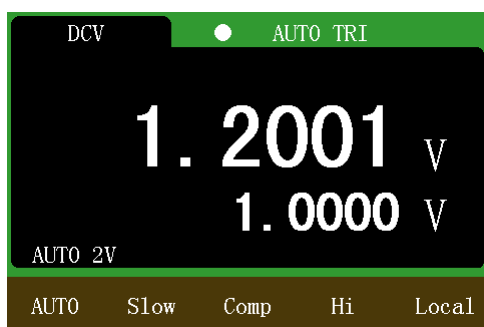
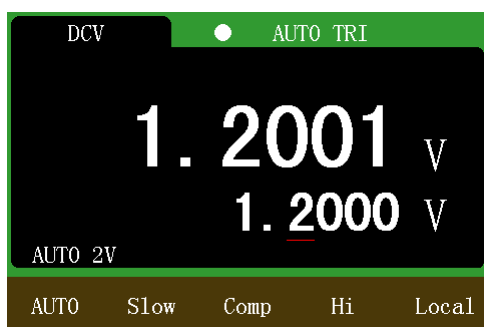

Figure 5-11 Upper limit comparison interface
Figure 5-12 Upper limit setting interface
1. Press **SHIFT** + **HI SAVE** key combination to select the COMP HI function, as shown in Figure 5-11. Press the key combination again to exit the COMP HI function.
3. In the upper limit comparison interface shown in Figure 5-11, press the Enter key to call up the upper limit setting interface. The up / down / left / right arrow key can be used to modify the upper limit, as shown in Figure 5-12.